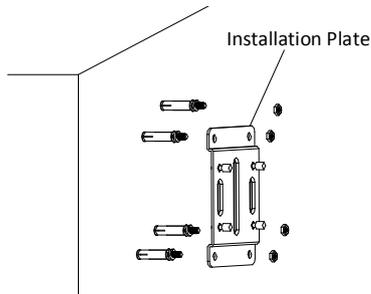

Figure 2-6 Attach the Installation Plate
3. Fix the installation plate and insert M10 $\times$ 80 expansion screws into the screw holes, as shown in Figure 2-6.